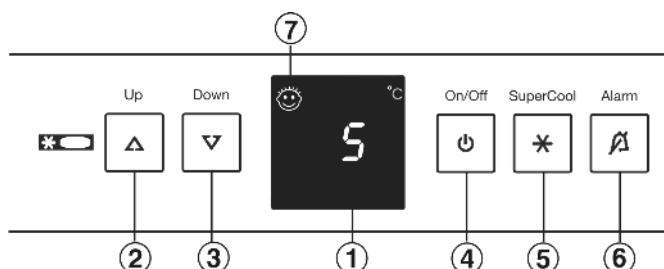

Fig. 2
- Press On/Off button *Fig. 2 (4)*.
- To activate the setting mode: press SuperCool button *Fig. 2 (5)* for about 5s.
- Using the Up setting button *Fig. 2 (2)* and Down setting button *Fig. 2 (3)*, select h .
- To confirm: briefly press the SuperCool button *Fig. 2 (5)*.
- To set the display brighter: press the Up setting button *Fig. 2 (2)*.
- To set the display darker: press the Down setting button *Fig. 2 (3)*.
- To deactivate the setting mode: press the On/Off button *Fig. 2 (4)*.